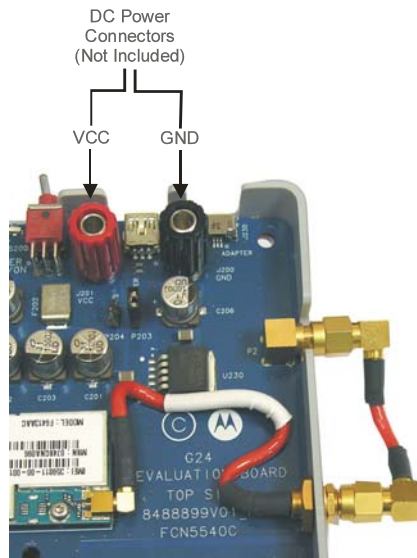

Figure 2-9: DC Input Connectors
2. Attach the DC input connectors to the Developer Board (Figure 2-9).